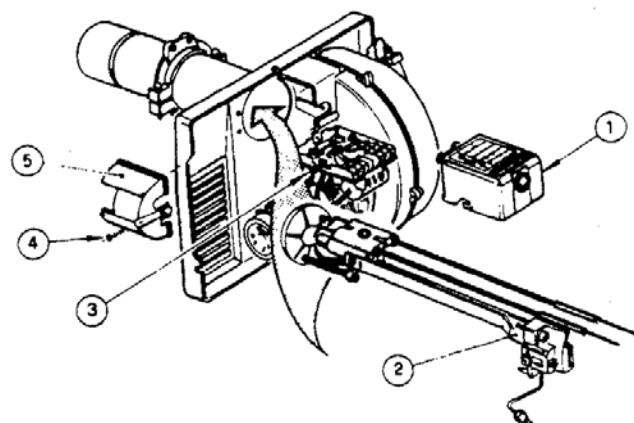

Figure 7B: Installation/Removal of Riello Drawer Assembly
- a. Installation/Removal of Drawer assembly, refer to Figure 7B.
- Loosen SCREW (3), and then unplug PRIMARY CONTROL (1) by carefully pulling it back and then up.
- Remove the AIR TUBE COVER PLATE (5) by loosening the retaining SCREW (4) (Two SCREWS-Model F5).
- Loosen SCREW (2), and then slide the complete drawer assembly out of the combustion head as shown.